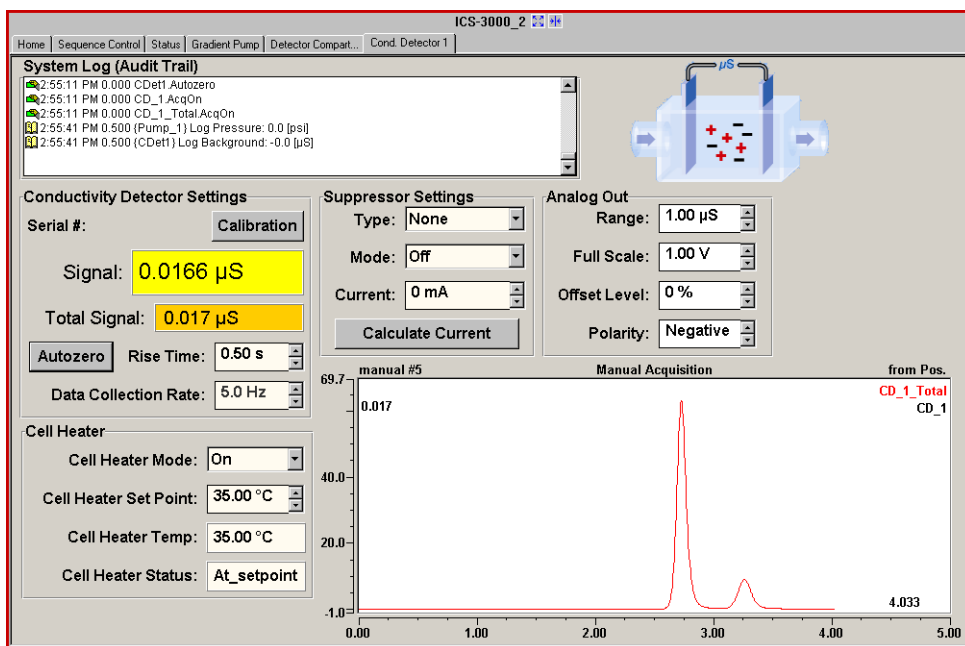

Figure 5-6. Manual Data Acquisition
4. The signal plot is displayed on the **Detector** Control panel (see Figure 5-6). Monitor the chromatogram and when sample data has been collected, click **Acq Off**.